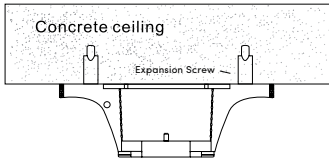

Figure 2
- 1 Concrete Ceiling** Drill two holes with an appropriate depth using an 8mm diameter drill bit and insert one expansion screw (not supplied) to each hole. Fix the mounting bracket into the expansion screws, and tighten it with the nuts of expansion screws. (Fig. 2)